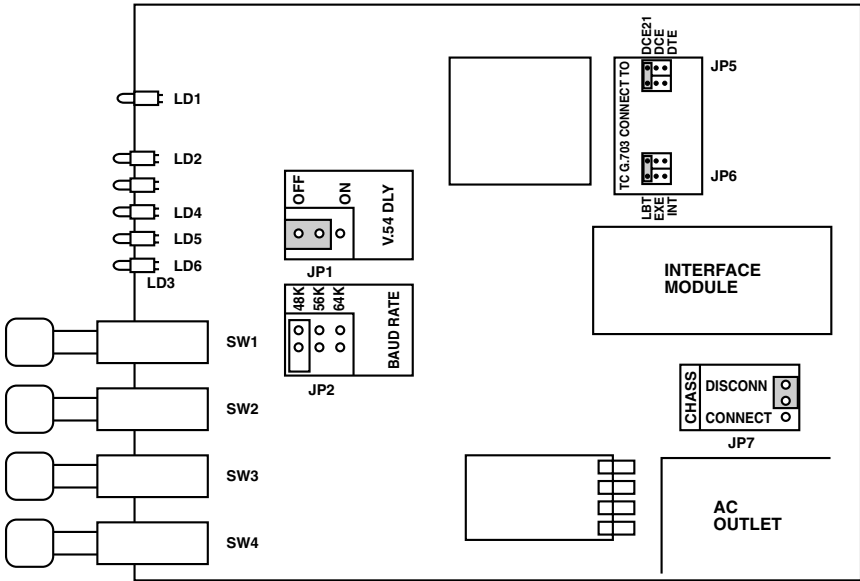

Figure 3-1. Board layout of the G.703 Codirectional Converter.
Prior to installing the G.703 Codirectional Converter, determine its configuration in the data system and set its jumpers accordingly. Refer to Table 3-1 on page 22. The diagrams in **Chapter 2** can help you identify the required jumper selection. Jumper locations on the printed circuit board are shown in Figure 3-1 on the next page. Read the instructions in **Section 3.3.2** before making any changes.
- Identify the jumpers(s) (refer to Figure 3-1 on page 21).